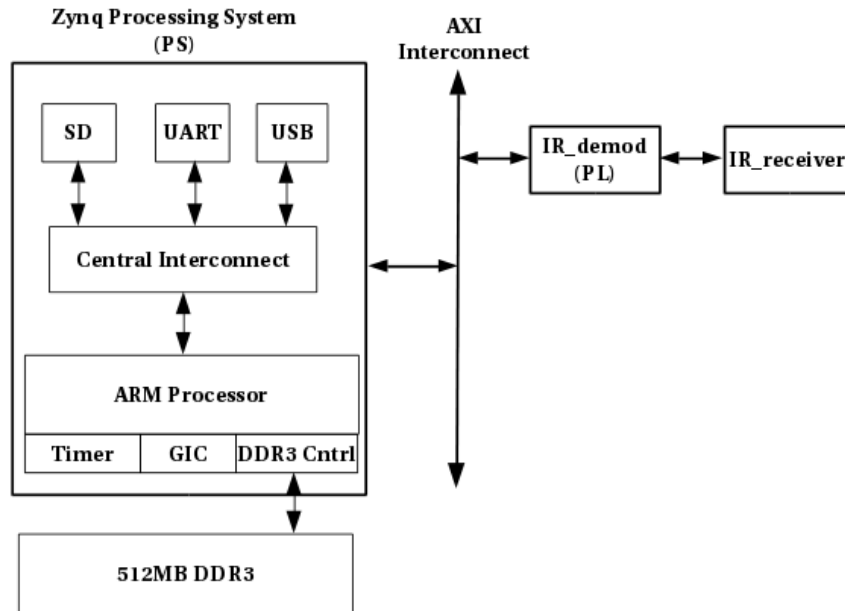

Figure 1: Zynq System Diagram
The Linux compliant hardware system that you will create in lab this week is depicted in Figure 1.
6. With the hardware system from Figure 1 built, it is now time to write a device driver for our IR-remote demodulation hardware. Unlike the device driver you created in Lab 6, this device driver will utilize